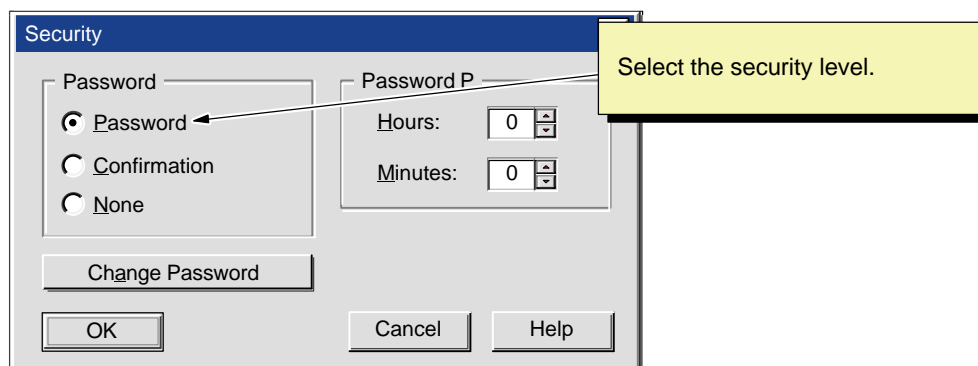

Figure 4-20 Setting the Security Level for WinLC RTX
3. In the Security dialog box (Figure 4-20), click on the option for password (security level).